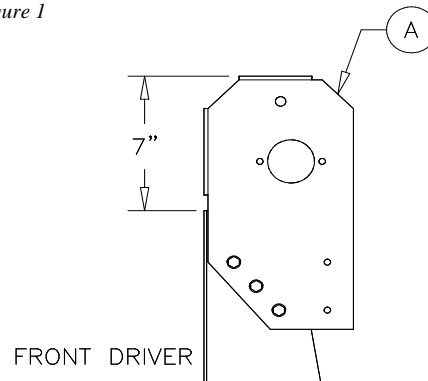

Figure 2
**Procedure:** Position the driver and passenger rolltube brackets (A) along the front sides of the gravel box. The brackets should be mounted at a distance of 7" higher than the top of the box (see Figure 2).